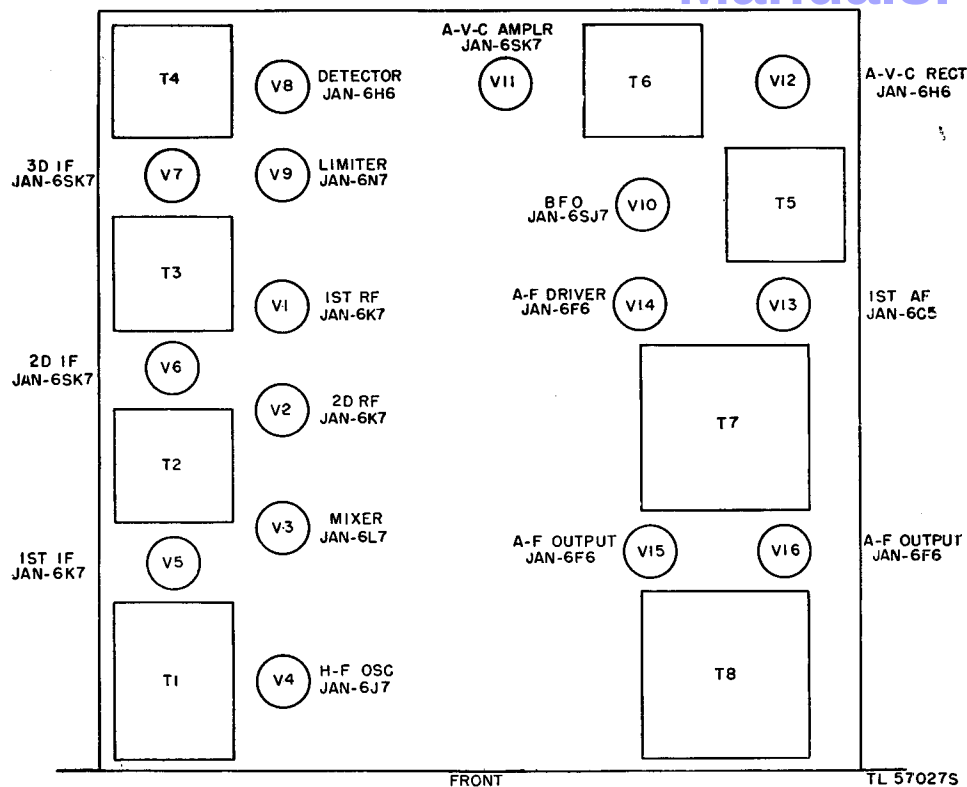

Figure 13. Radio receiver, tube location.
(1) **Receiver.** To inspect the receiver tubes, remove the dust cover by removing the thumbnuts which hold the cover to the front panel and rear edge of the chassis. A receiver tube location diagram is shown in figure 13. Their proper location, as well as the marking of their respective sockets, is clearly shown also in the etched location plates attached to the top of the tuning unit. All of the receivers use the same set of tubes.